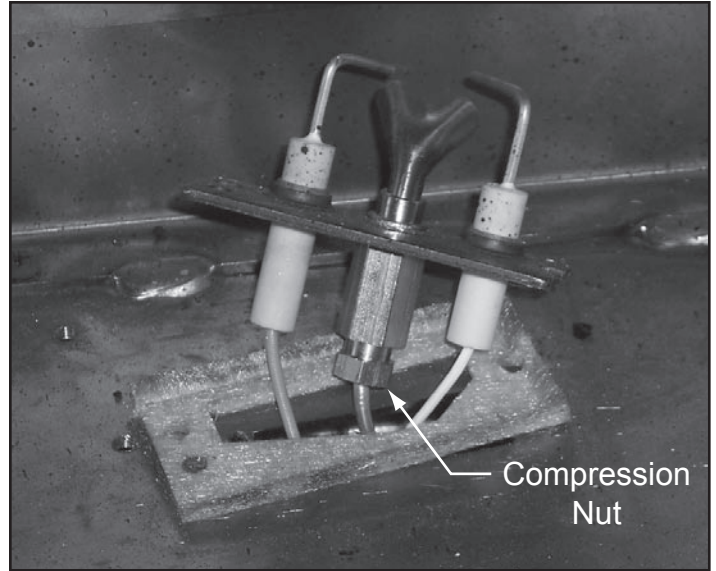

Figure 6 Access Pilot Tube Compression Nut
- Remove two screws holding the pilot assembly in place. Carefully lift the assembly to access the pilot tube compression nut as shown in Figure 6.